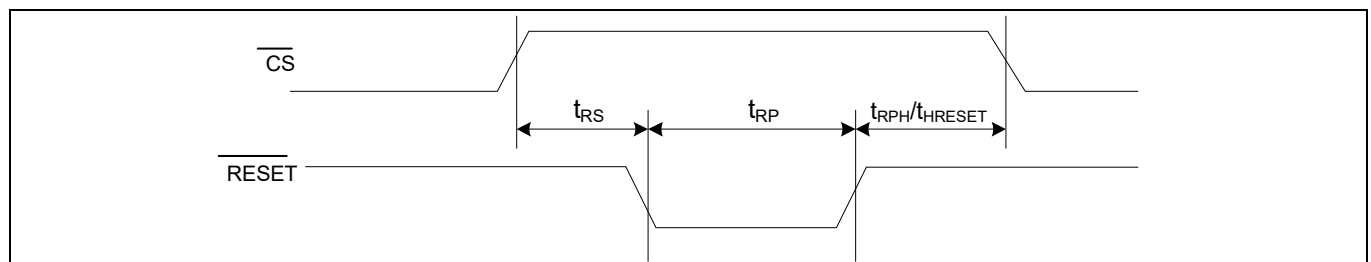
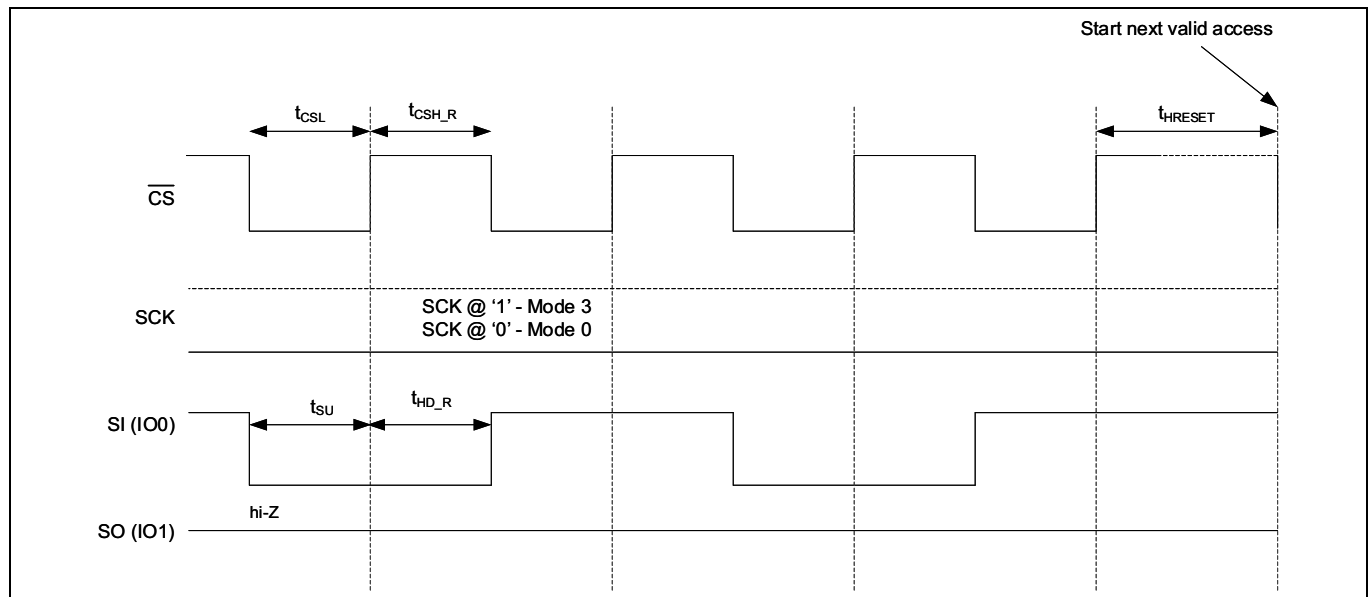

Figure 109 $\overline{\text{RESET}}$ timing - SPI with QUAD set (CR1[1] = '1') or QPI enabled (CR2[6] = '1')
Figure 111 JEDEC SPI reset
The hardware reset input ($\overline{\text{RESET}}$) is multiplexed on ($\overline{\text{RESET}}$ / I/O3) and is an active LOW signal in CY15X102QSN device. Refer to Table 21 for hardware reset ($\overline{\text{RESET}}$) pin configurations across various SPI interfaces. When $\overline{\text{RESET}}$ is pulled LOW, CY15X102QSN self initializes and brings its configuration back to the power up status. Refer to Table 59 for different registers configuration after $\overline{\text{RESET}}$ cycle. Once $\overline{\text{RESET}}$ is issued, CY15X102QSN takes $t_{\text{RPH}}/t_{\text{HRESET}}$ time from $\overline{\text{RESET}}$ rising edge to complete the reset cycle. CY15X102QSN becomes inaccessible during t_{RPH} time. Figure 109 to Figure 111 show the $\overline{\text{RESET}}$ timings in different reset mode.
- The $\overline{\text{RESET}}$ pin is multiplexed on I/O3 in the QPI mode. When using the hardware ($\overline{\text{RESET}}$) in QPI mode, the CR2 [5] bit must be set to '1' to enable to use I/O3 as $\overline{\text{RESET}}$ input when $\overline{\text{CS}}$ is HIGH. Figure 109 shows the $\overline{\text{RESET}}$ / (I/O3) timing in QPI mode
Refer to Figure 111 for timing details.